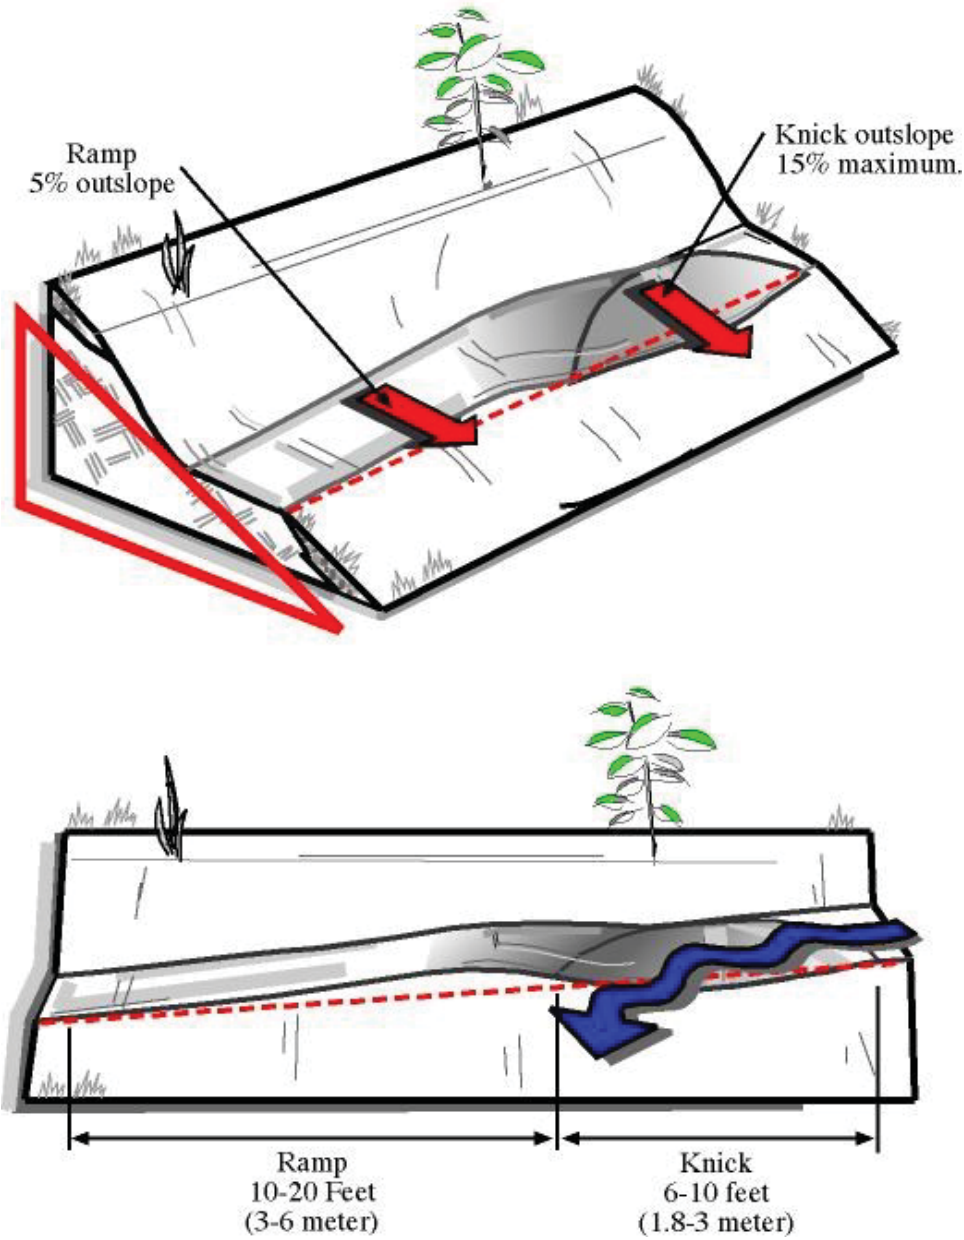

Figure 7: Rolling Grade Dip
4.7 Rolling Grade Dip (figure 7)